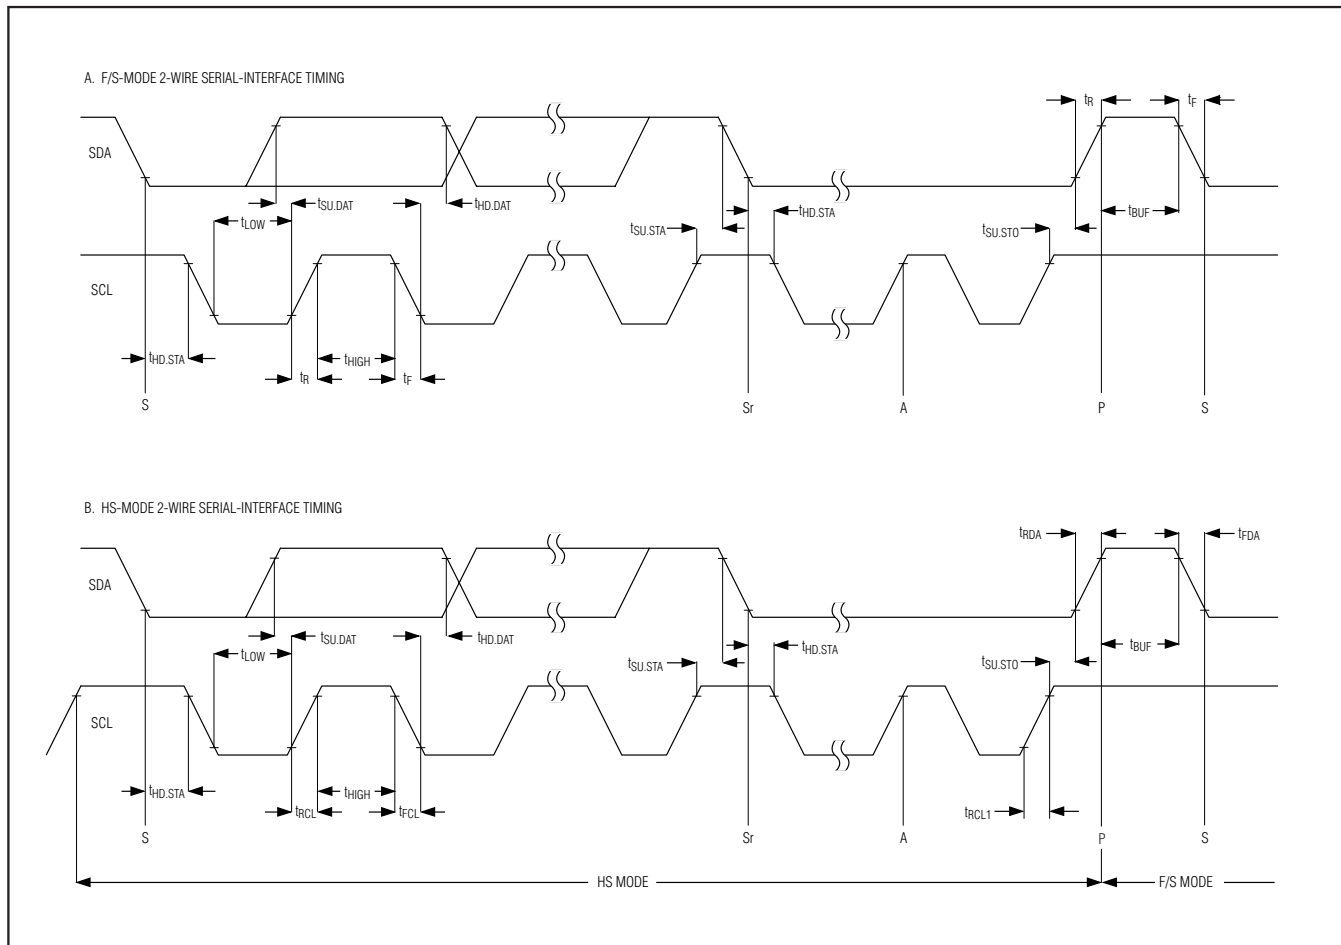

Figure 1. 2-Wire Serial-Interface Timing
### TIMING CHARACTERISTICS (Figure 1)
### TIMING CHARACTERISTICS (Figure 1) (continued)
**Note 11:** A master device must provide a data hold time for SDA (referred to VIL of SCL) to bridge the undefined region of SCL's falling edge (see Figure 1).
At power-up, the MAX11612-MAX11617 bus timing is set for fast-mode (F/S mode), which allows conversion rates up to 22.2ksps. The MAX11612-MAX11617 must operate in high-speed mode (HS mode) to achieve conversion rates up to 94.4ksps. Figure 1 shows the bus timing for the MAX11612-MAX11617's 2-wire interface.